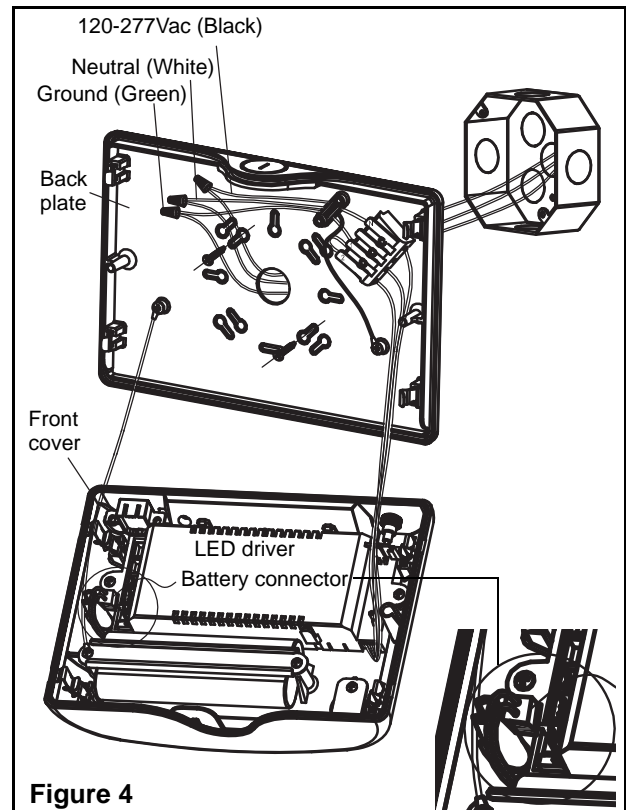

Figure 4
7. Connect the battery connectors to the PCBA (see figure 4).